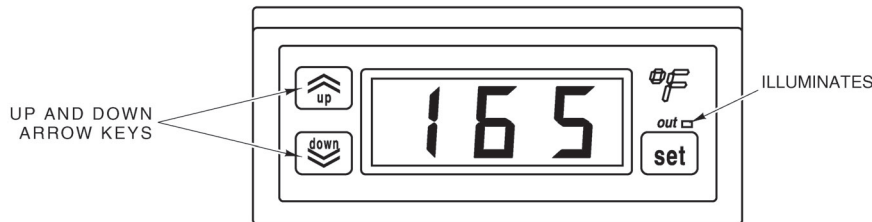

Fig. 7
2. Quickly press Up or Down (Fig. 7) to adjust the setting (temperature range is 149 to 185°F).
- The heater output indicator will light as the unit preheats (Fig. 7).